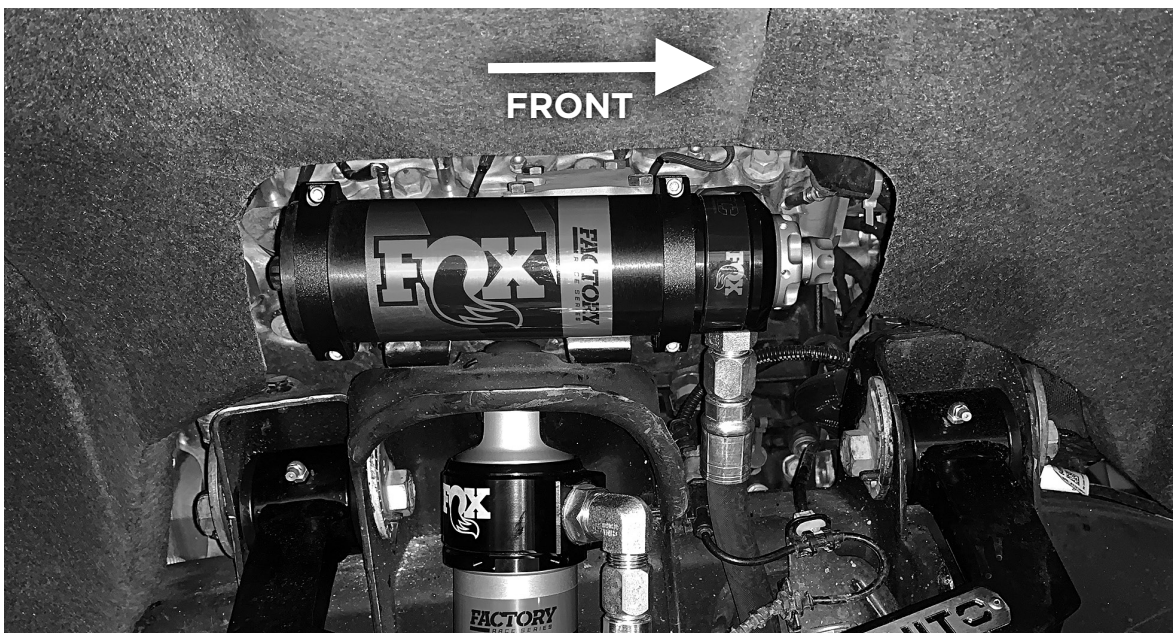

Figure 8: Passenger side shown
- Install new shock. With external reservoir models, make sure that the hoses are facing outward and toward the front as shown (Figure 8).